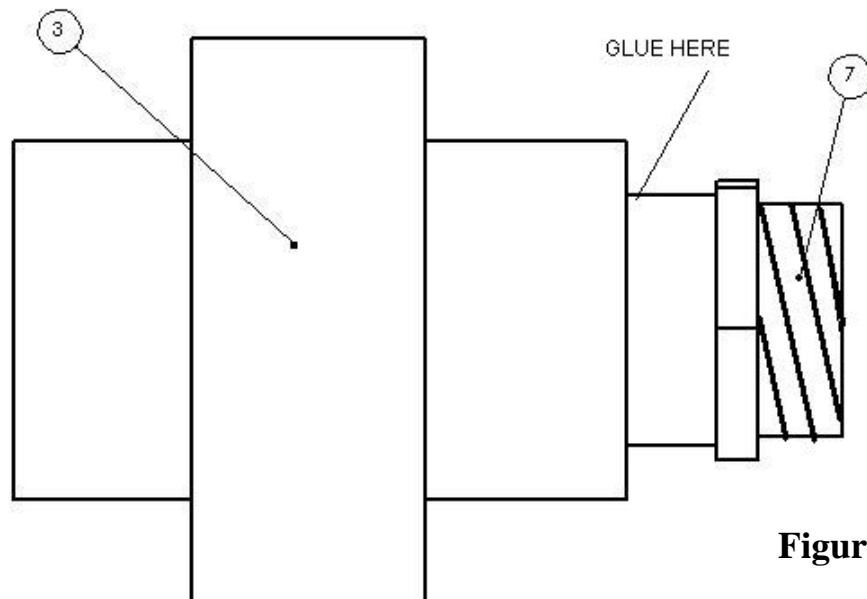

Figure 10
- 13)** Apply PVC glue to the male slip end of the (#7) PVC Thread Adapter and insert into one side of the (#3) PVC Union. Be sure to push the thread adapter as far as it will go into the union. See Figure 10.